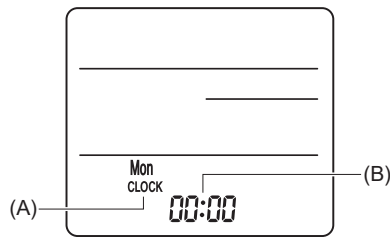

Fig. 6-9
- (1) Attach the remote controller holder to the desired location using 2 tapping screws.
- (2) Place the lower end of the controller into the holder.
- (A) Remote controller (B) Wall (C) Display panel (D) Receiver
3) Setting (Clock setting) (Fig. 6-9)